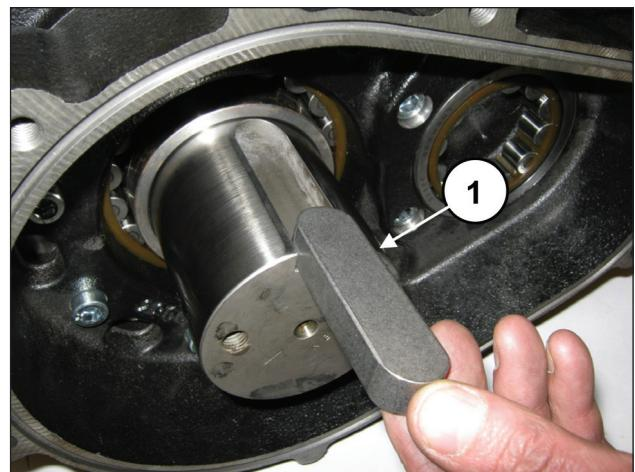
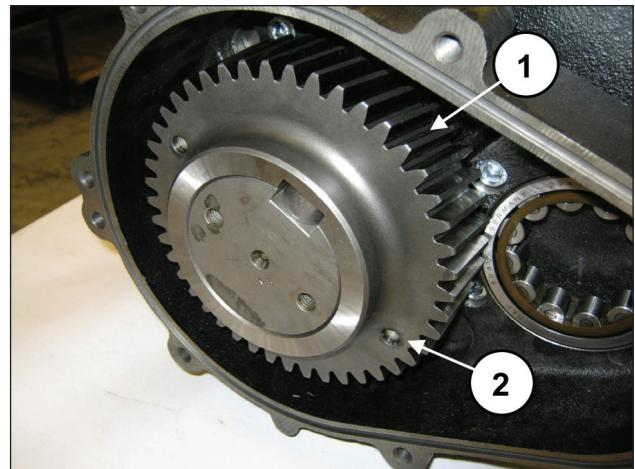

Fig. 76
Fig. 77
Fit the 22x14x80 key in the shaft keyway (pos. ①, Fig. 76) and insert the ring gear on the shaft (pos. ①, Fig. 77).
**The ring gear must be assembled making sure that the two M8 holes (to be used for extraction) are facing the exterior of the pump (pos. ②, Fig. 77).**